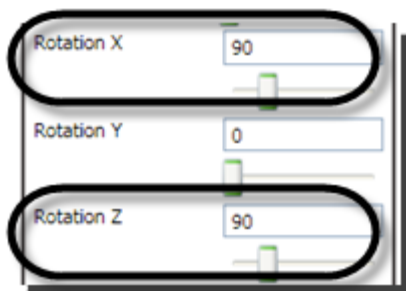

Figure 275
3. Using the **Rotation X** and **Rotation Z** sliders, rotate the winch model until it is standing upright (Figure 275).